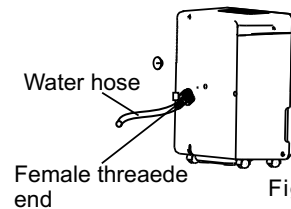

Fig.10
- Install the female threaded end of the water hose into the adaptor A.(See.Fig.10),then lead the water hose to the floor drain or a suitable drainage facility.